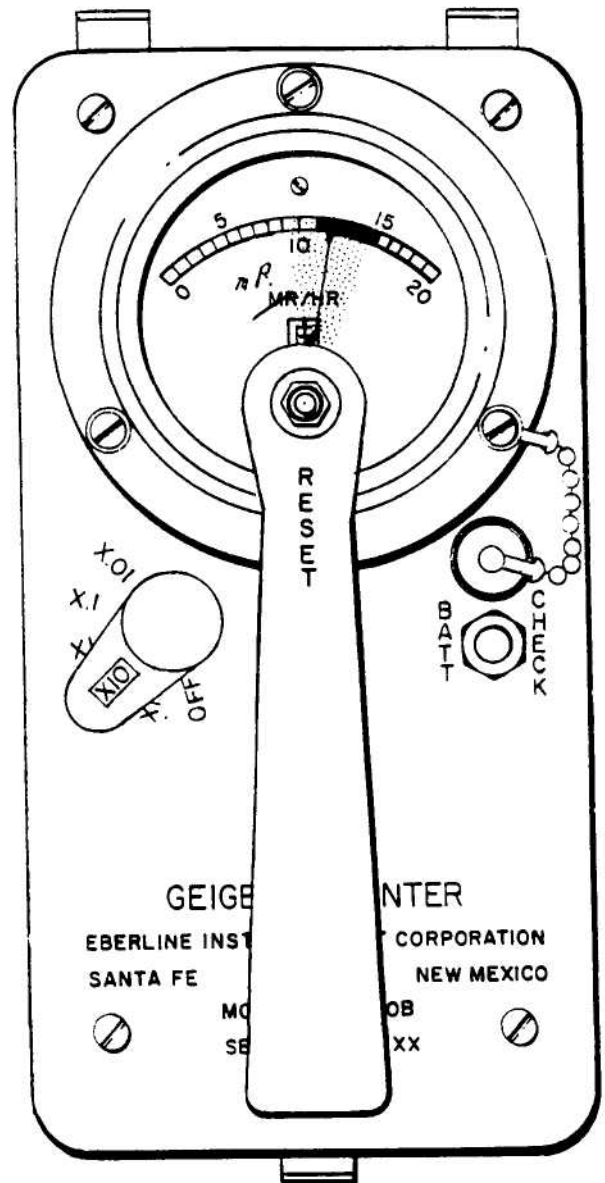

Figure 2-1. Operating Controls and Typical Meter Reading
1. FRONT PANEL, SEE FIG.2-1.
To read the beta-gamma field strength, it is necessary to multiply the meter reading by the number indicated by the scale switch. If the scale switch is set on X10, and the meter reads 12, the beta-gamma field strength would be this 12 multiplied by 10, or 120 mr per hour. See Fig. 2-1.